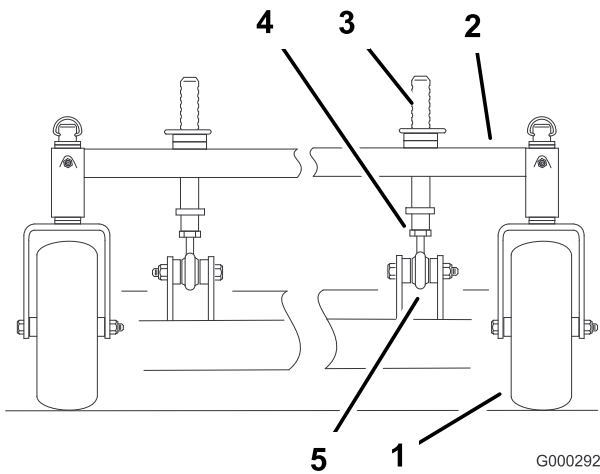

Figure 57
1. To change the front-to-rear pitch, the front height-of-cut posts can be adjusted (Figure 57).
- To raise the front of the deck, loosen jam nut and rotate the front pin clockwise (Figure 57).
- To lower the front of the deck, loosen jam nut and rotate the front pin counter clockwise (Figure 57).
- Tighten the jam nuts (Figure 57).